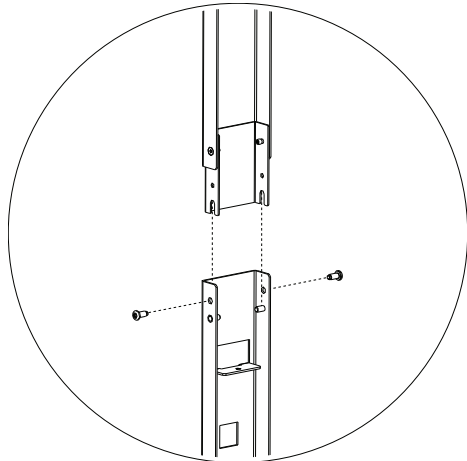

fig. 2
1. Assemble End Panel Channel by sliding the top channel into the bottom channel and securing with (2) M6 screws. See fig. 2.